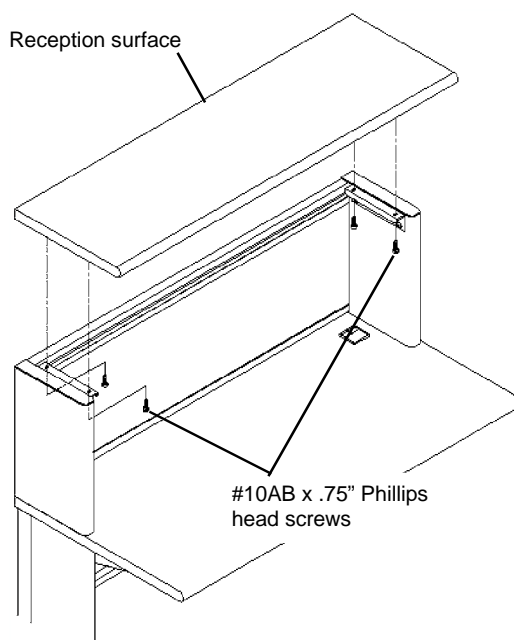

Figure 3
3. Position the Reception Surface in place on top of the organizer. Align the pre-drilled holes in the Surface with the holes in the Supports and fasten in place with the #10AB x .75" Phillips head screws (provided). See **Figure 3**.